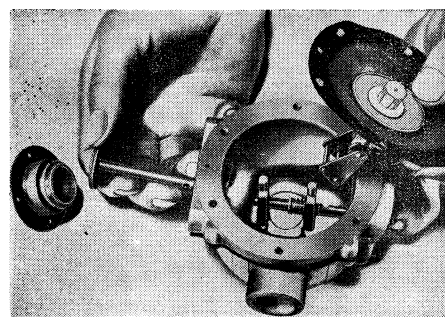

Fig. 14 Removing vacuum valve
18. Remove vacuum valve seat, valve and diaphragm, Fig. 14.